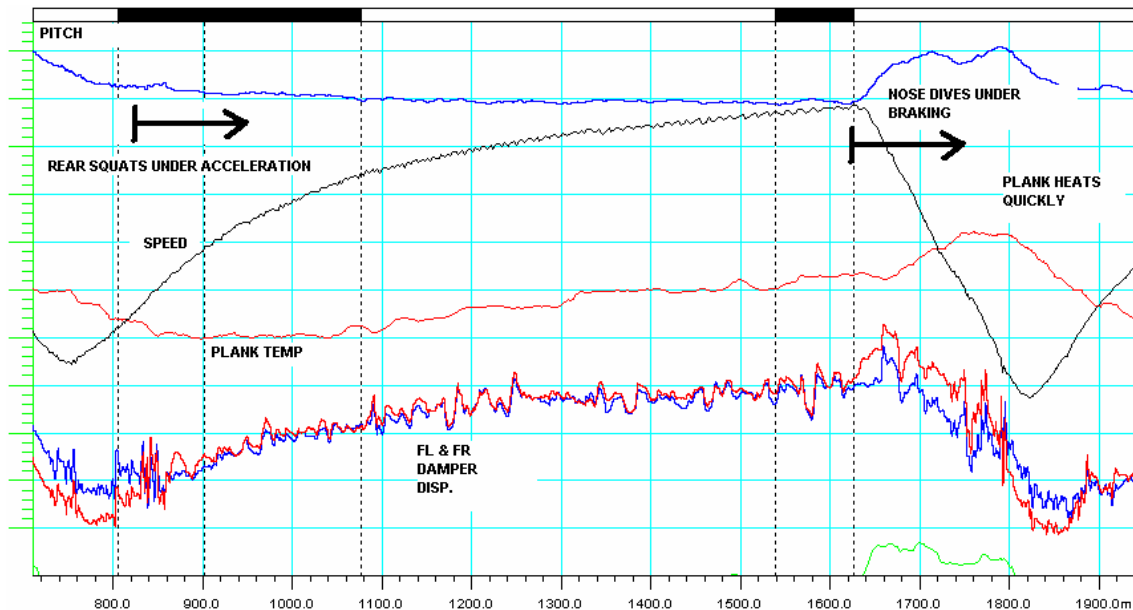

FIG. 2 Close-up view of back straight between Turns 2 & 3
- At 800m the car begins to accelerate down the main straight (see FIG. 2 below). Whilst the car is accelerating the car assumes a pitch-up attitude with the rear squatting down. During this phase the plank temperature increases steadily as the whole plank – starting from the rear – is in contact with the ground. Although the temperature sensor is mounted at the front, we are able to see an increase in the plank temperature caused, initially at least, by the rear of the plank making contact with the ground, as there is a significant level of heat transfer along the length of the plank.